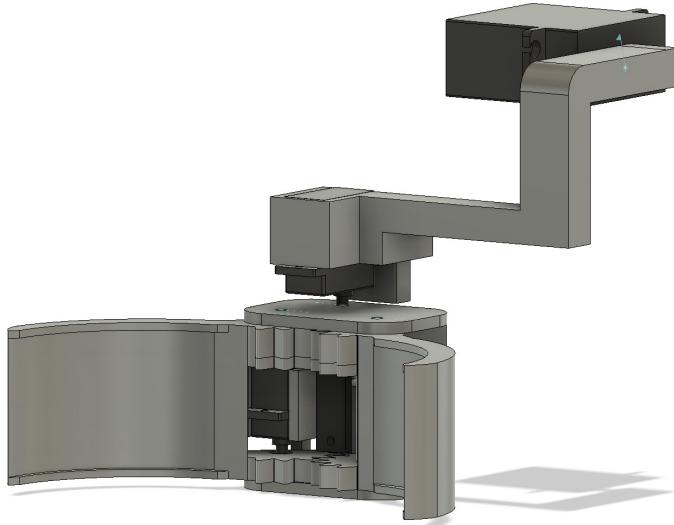

Figure 15: Finished CAD design of gripper arm
- Added a third servo to the arm, allowing rotation of the gripper to sort victims into different storage areas and serving as the attachment point between gripper and arm (see Fig. 15)